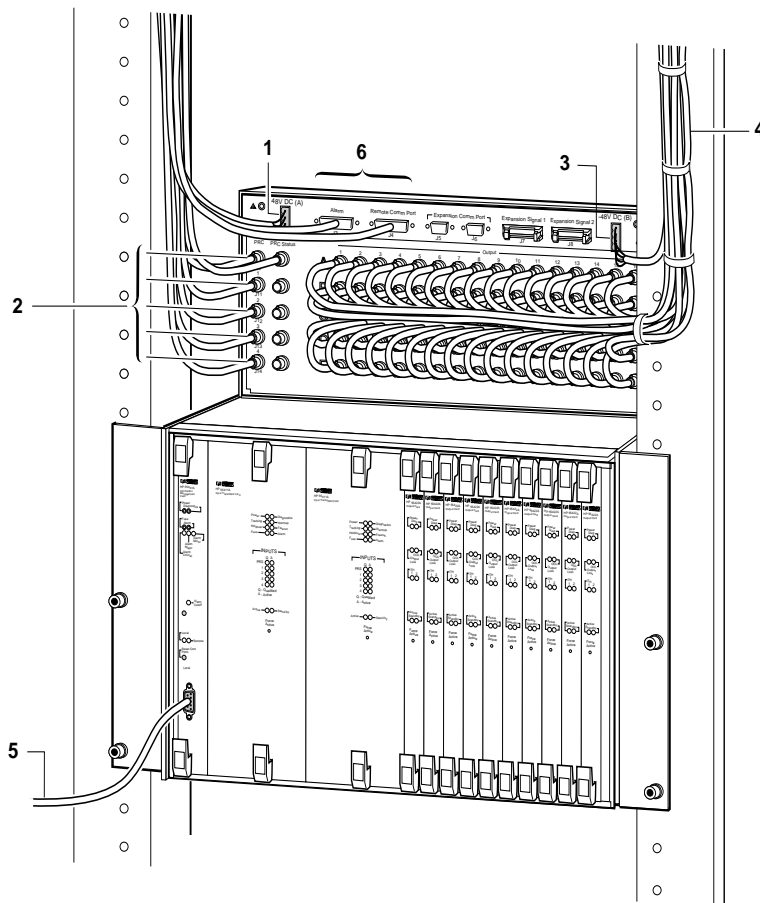

Figure 4. Example of a Cabled HP 55401B Master Subrack
8.2. There are a number of ways to group and run the cables that you will connect to the HP 55401B. Figure 4 shows an example of how cables might be run in facilities that have overhead cabling.